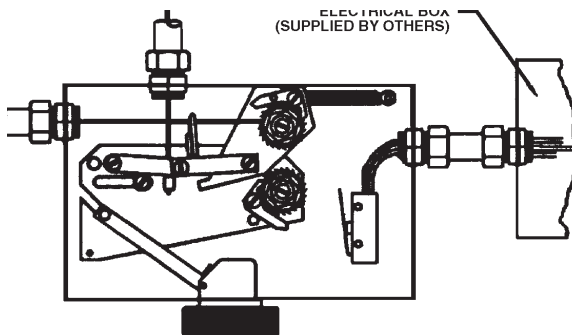
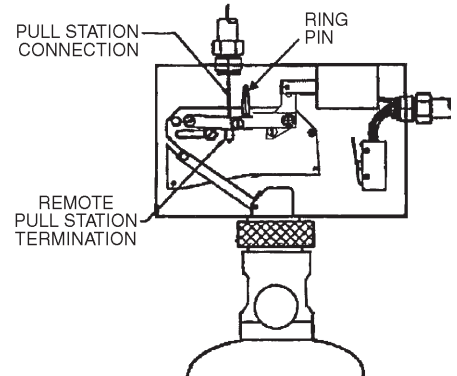

Figure 4-21. Miniature Switch Installation in Model MCH3 /NMCH3 Control Head.
Figure 4-22. Miniature Switch Installation in Model ECH3 Control Head.
- ▶ The Model MS-SPDT, MS-DPDT, MS-3PDT, or MS-4PDT Miniature Switch is available for use where an electrical output is required. These switches can be field installed in the control head. See **Figure 4-21** and **Figure 4-22** and refer to Instruction Sheet, Part No. 551159, included with switch shipping assembly, for detailed mounting instructions.